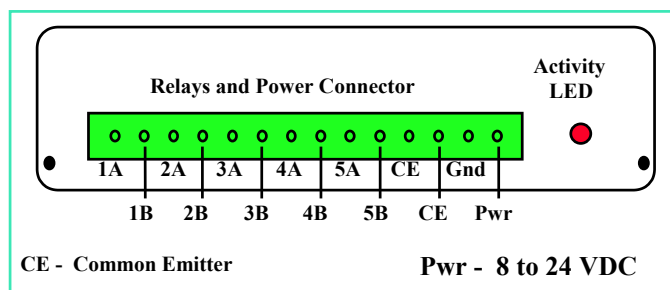
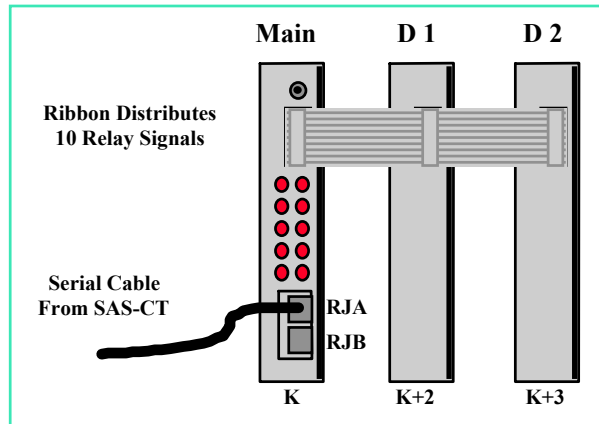
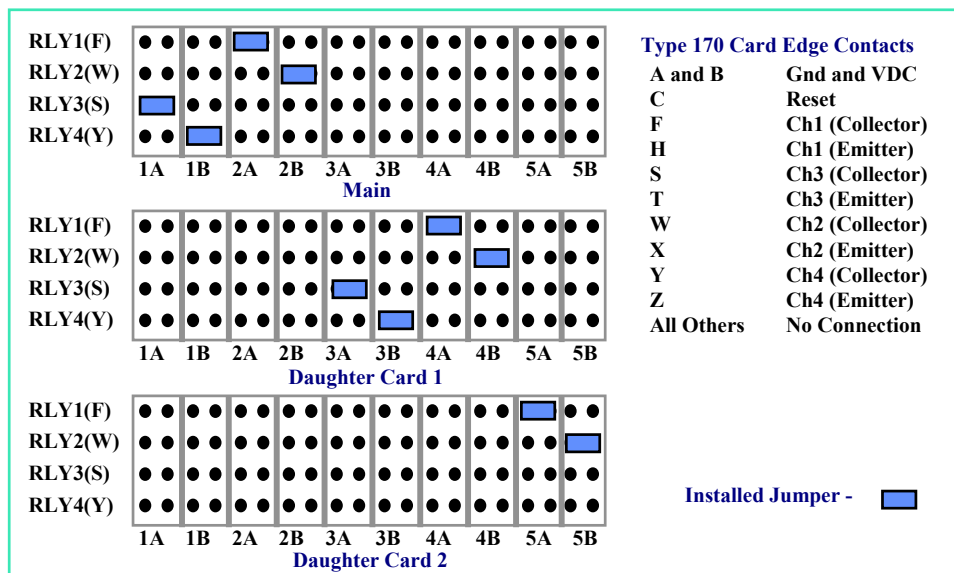

Figure 2 SAS-RI Rear Panel Connector
Figure 3 SAS-RI Main and Daughter Cards
Figure 4 Routing Relay Signals to the SAS-RI Card Edge
The shelf mount version brings ten (10) relay signals out via a multi-conductor cable connected at the rear of the SAS-RI shelf mount unit. This cable is made up of ten (10) conductors (open collector) for ten (10) relay signals and one common emitter (CE) as shown in Figure 2. The two “CE” pins (Common Emitter) are common to all the relay signals. Power for the SAS-RI can range from 8 to 24 VDC since the SAS-RI has its own DC to DC switching regulator.
The type 170 card version is comprised of a SAS-RI Main Card and up to two SAS-RI Daughter Cards (D1 and D2) as shown in Figure 3. Each SAS-RI Main and Daughter Card has a ribbon cable header for relay distribution and a **Relay Routing Matrix**. The Relay Routing Matrix on each SAS-RI Card provides complete flexibility for connecting any of the ten relay signals from each SAS-1 unit to any of the four standard card edge contacts (F, W, S, and Y) as specified for a type 170 Card File. For Type 170 compatible detector cards, there may be up to four relay signals brought out to the card edge connector as shown in figure 4. Note that for the Type 170 Card File, the relay signals at **S** and **Y** are actually routed to the **F** and **W** positions in the next lower slot. Therefore, the Type 170 Card File provides only 2 relay signals per slot.
For each of the SAS-RI cards used, set the Relay Routing Matrix (header **JP1**) jumpers as shown in Figure 4. These jumpers connect each relay signal (1A, 1B, 2A, 2B, etc.) from the SAS-RI to
a card edge contact (**F, W, S, Y**). From Figure 4 it can be seen that the SAS-RI Main card routes relay signals 1A, 1B, 2A, and 2B to four card edge contacts. The SAS-RI Daughter Card 1 routes relay signals 3A, 3B, 4A, and 4B to four card edge contacts. And finally, the SAS-RI Daughter Card 2 routes relay signal 5A and 5B to two card edge contacts. For Type 170 card files, contacts **S** and **Y** are routed to contacts **F** and **W** respectively in the adjacent lower numbered slot (i.e. contacts **S** and **Y** in slot 2 are routed to **F** and **W** in slot 1). Plug each SAS-RI Card into the appropriate **slots** in the Type 170 card file to avoid relay signal conflict (Figure 3). Note the use of slot K+3 instead of slot K+4 for SAS-RI Daughter Card 2. Since SAS-RI Daughter Card 2 routes only two relay signals to card edge contacts **F** and **W**, slot K+3 can be used without conflict. For the jumper configuration shown in figure 4, the relay signals are routed to the following Type 170 Card File positions:
Connect the ribbon cable to each header on the main SAS-RI card and on each of the daughter cards as shown in Figure 3. This ribbon cable is used to distribute all ten relay signals from the SAS-RI Main Card to each of the Daughter Cards. If the shelf mount SAS-RI is being used, make sure that the relay and power conductors are securely connected to the correct terminal (Figure 2). Connect the serial cable (straight thru Cat 5E) to the SAS-CT (RJ-45) and to the SAS-RI Main Card (RJ-45 receptacle marked **RJA**).